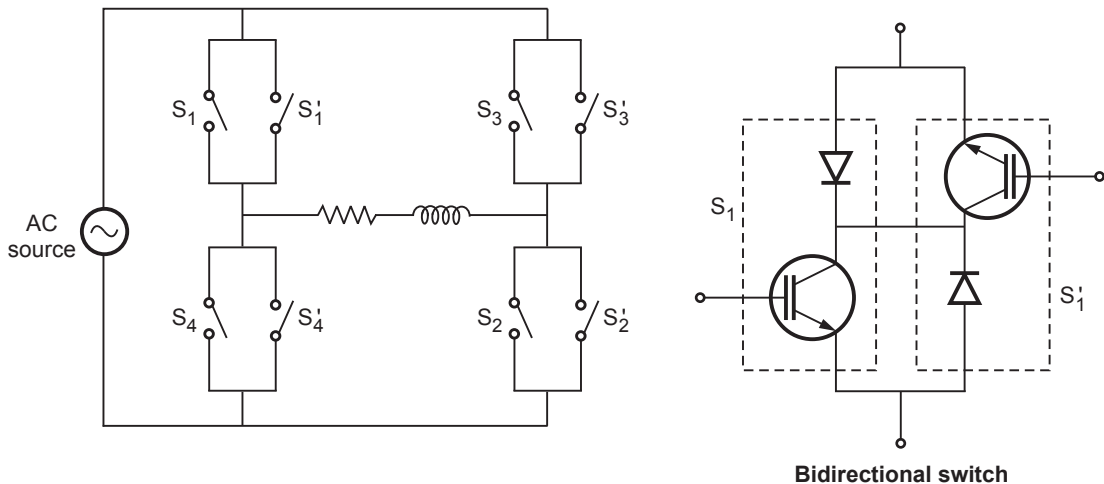

Fig. 3.6.1 Matrix inverter
- Fig. 3.6.1 shows 1 ϕ matrix converter. The pairs of $S_1 - S'_1$, $S_2 - S'_2$, $S_3 - S'_3$ and $S_4 - S'_4$ form bidirectional switches. These switches have ability to conduct in both the directions.